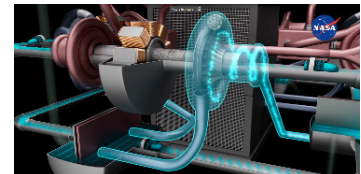

Figure 2. Rotating Heat Exchanger
4. Complete the rotating heat exchanger model (Fig. 2).
- Complete the rotating heat exchanger model (Fig. 2).